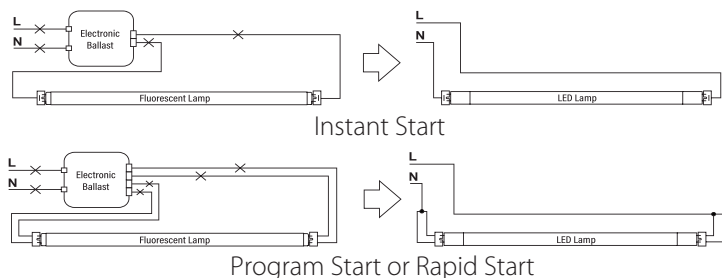

Fig. 2 - Retrofit luminaire with One Lamp
8. Make sure all sockets are replaced and wired according to the appropriate wiring diagram. (Fig. 2, 3, 4, 5).